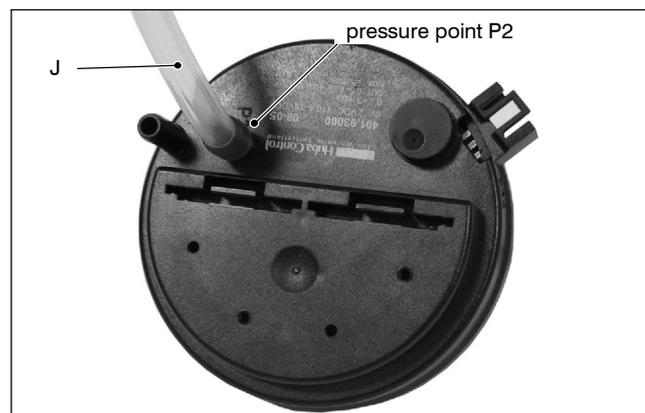

Fig. 5
**Warning: to correctly connect the Air pressure sensor, refer to Fig. 5**